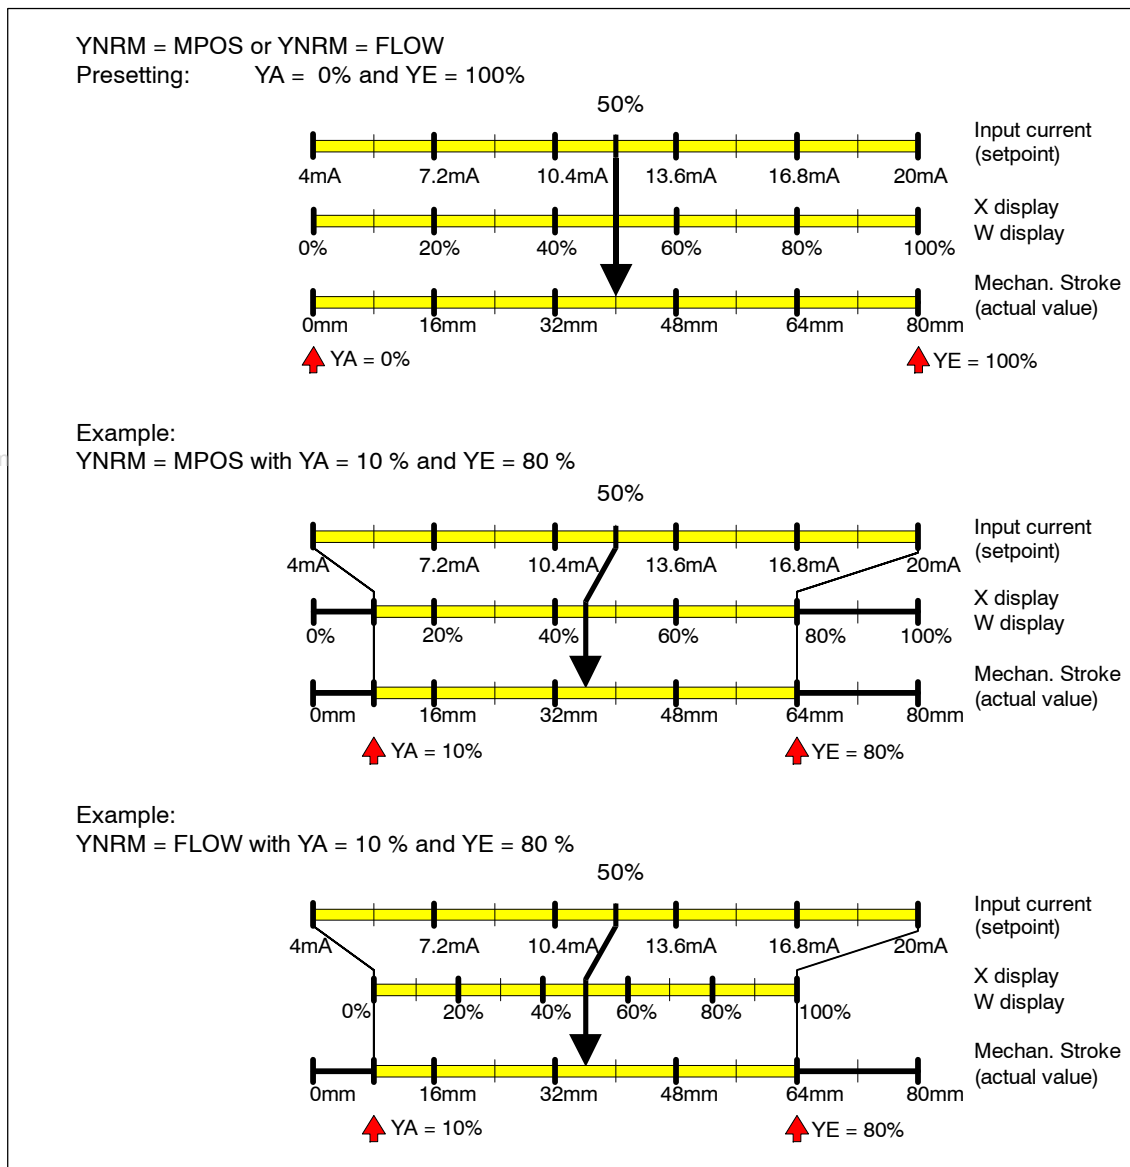

Figure 4-9 Dependence on the stroke of standardization and on YA and YE in the example of an 80 mmlinear actuator
- The actuator can report the exceeding (max.) or dropping below (min) of a specified stroke or angle of rotation. The response of the alarms (limit contacts) is related to the MPOS-scaling (see figure 4-9, page 85). The alarms are reported by the alarm module (order no. 6DR4004-6A or -8A). In addition the alarms can be read out through the HART interface (optional).